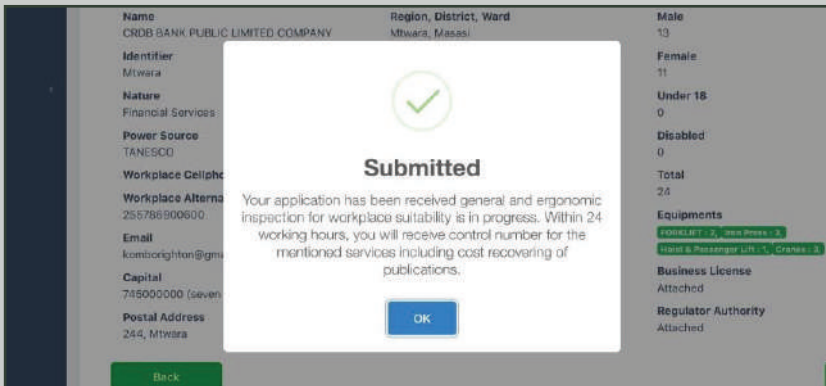

Figure 17: Submission of workplace confirmation message
- ix) User will receive mail and Mobile SMS on receipt of application and control number for OHS publications, General and Ergonomics inspections. Upon submission, the confirmation will be displayed as shown on Figure 17.